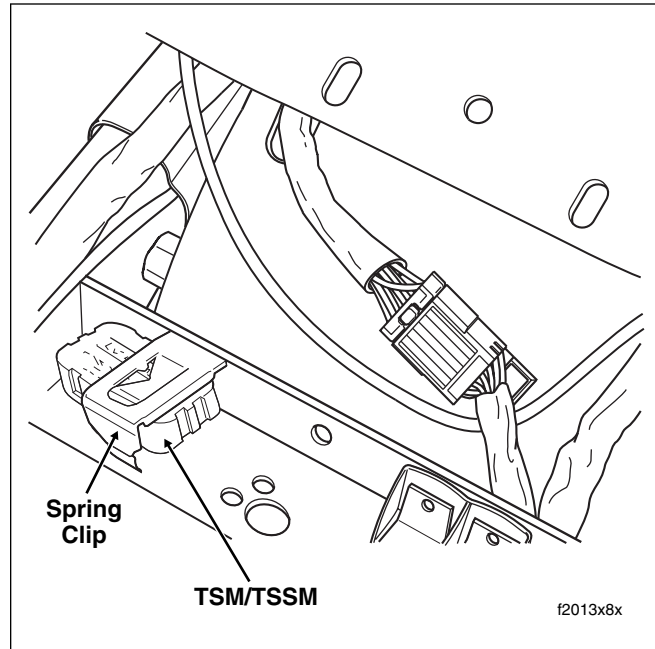

Figure 8-70. TSM/TSSM
2. Depress tab at front of spring clip and lift to release legs from holes in frame crossmember at rear of battery box. See Figure 8-70.